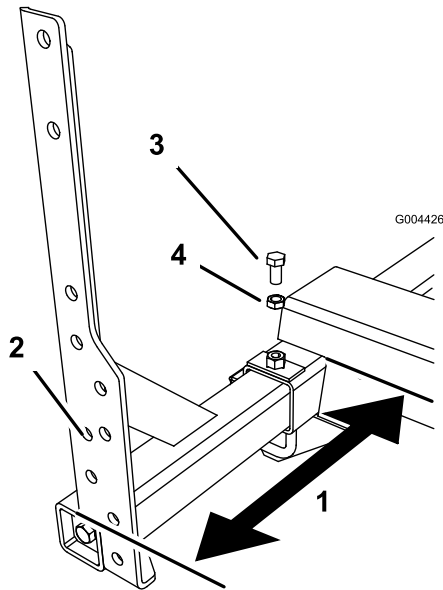

Figure 7
- A. For 1200 series turf sprayers, insert the upright into the frame until the end of the frame is 19-1/4 inches from the base of the axle housing on the frame (Figure 7). Retain with bolt and jam nut.